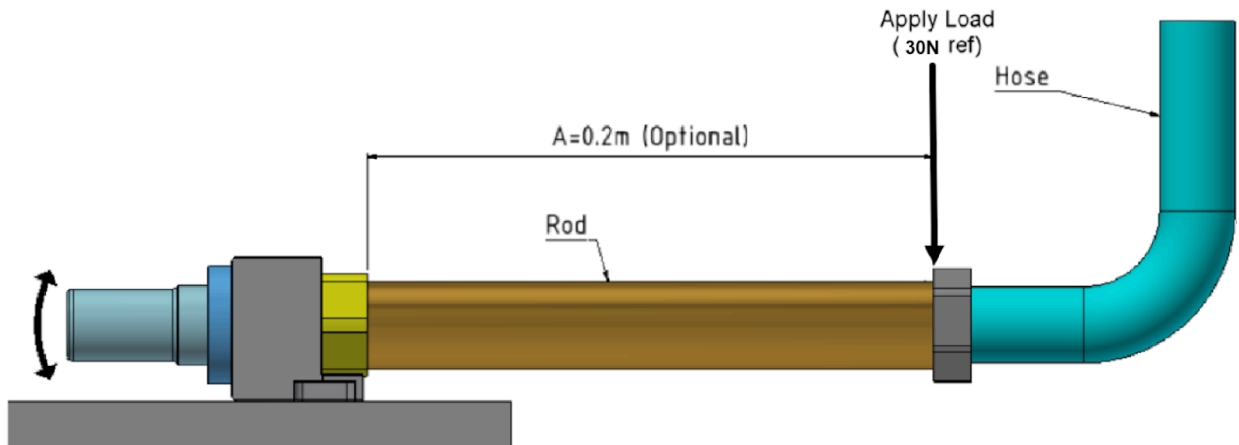

Figure 2.6.1 Reference Plug Test Set-up
1. Figure 2.6.1 shows the basic test set-up for testing the plug with a reference rod and force to meet the requirement.